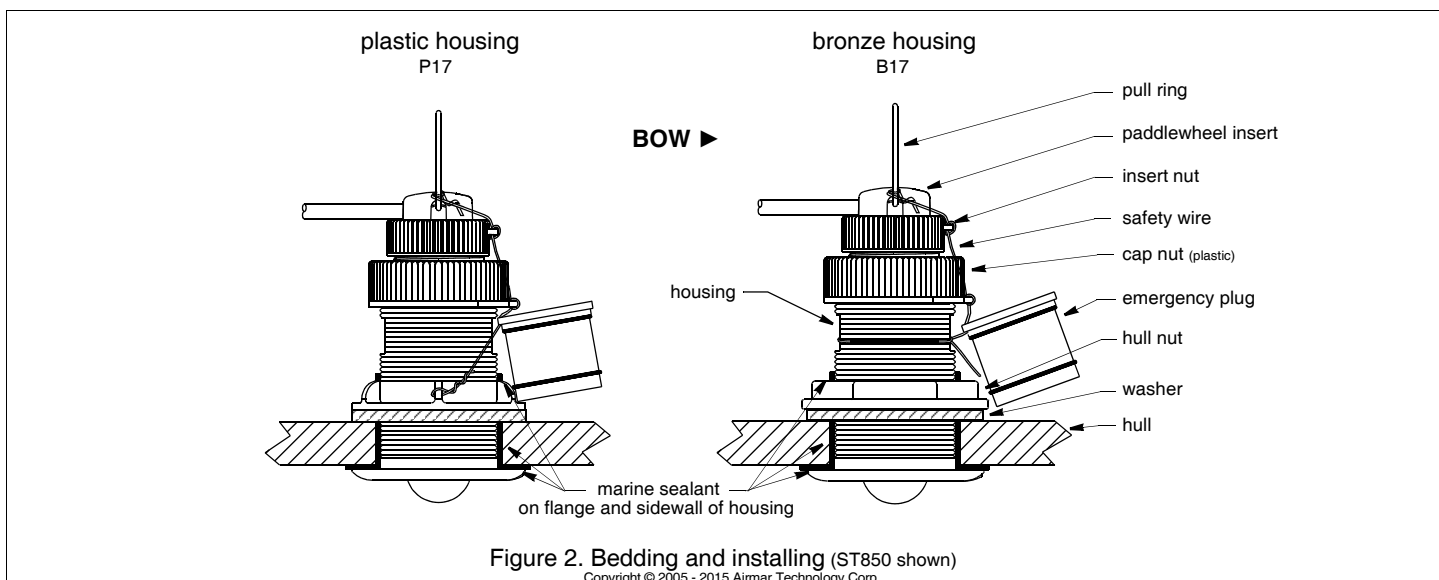

Figure 2. Bedding and installing (ST850 shown)
Apply a 2mm (1/16") thick layer of marine sealant around the flange of the housing that will contact the hull and up the sidewall of the housing (see Figure 2). *The sealant must extend 6mm (1/4") higher than the combined thickness of the hull, washer, and hull nut.* This will ensure there is sealant in the threads to seal the hull and to hold the hull nut securely in place.
1. From outside the hull, push the housing into the mounting hole using a twisting motion to squeeze out excess sealant (see Figure 2).
10. Always attach the safety wire to prevent the insert from backing out in the unlikely event that the insert nut and/or cap nut fails or is screwed on incorrectly (see Figure 2).
3. Remove the insert from the housing by removing the safety wire from the pull ring and the INSERT nut. Unscrew the INSERT nut (see Figure 2). *Do not remove the CAP nut.*
6. Reattach the safety wire to prevent the *long* blanking plug from backing out in the unlikely event that the insert nut and/or cap nut fails or is screwed on incorrectly (see Figure 2).
1. Remove the *short emergency* plug from the safety wire (see Figure 2).
5. Secure the *short emergency* plug with the cap nut. **Hand tighten** only. Do not overtighten. Reattach the safety wire (see Figure 2).
10. Attach the safety wire to the *short emergency* plug, the cap nut, the insert nut, and the pull ring to prevent the insert from backing out in the unlikely event that the insert nut and/or cap nut fails or is screwed on incorrectly (see Figure 2).